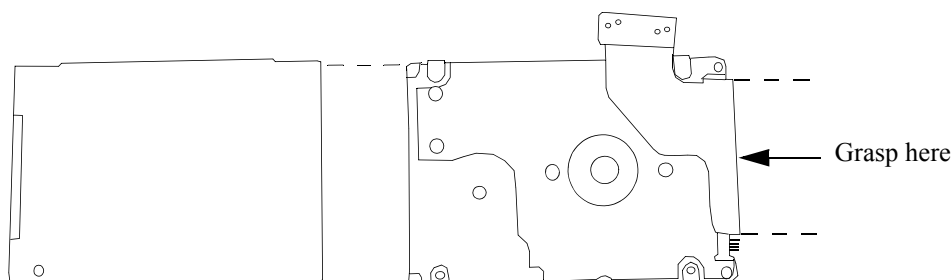

Figure 19 Protective Sleeve and Hard Drive Disassembled
- (8) Slide hard drive out of sleeve, refer to **Figure 19**.
- (9) Carefully grasp the connector/hard drive assembly on both sides (refer to **Figure 19**), and gently pull connector from hard drive. Set hard drive aside.
- (10) Locate replacement hard drive and carefully place connector on pins, refer to **Figure 19**.
- (11) Slide hard drive into sleeve, refer to **Figure 19**.
- (12) Locate and install screw into hard drive sleeve.
- (13) Carefully place hard drive into hard drive bay.